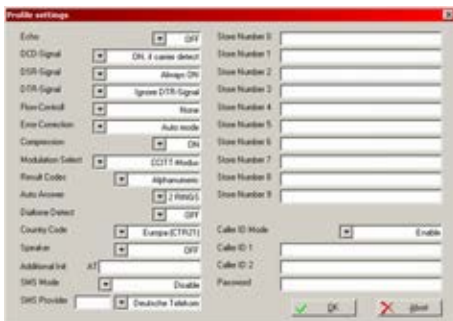

Fig. 187: Profile settings
4. Configure the settings shown in (Fig. 187) for the modem to accept an incoming call for remote configuration.